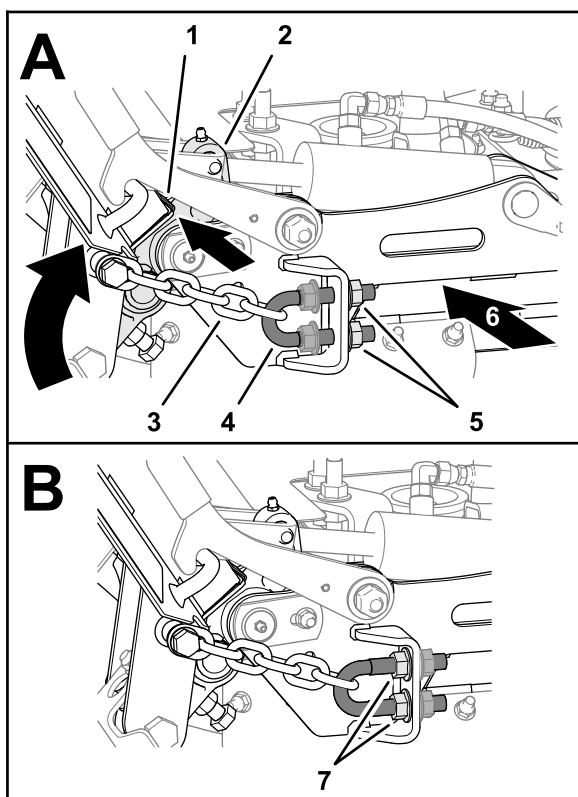

Figure 38
3. At the back of the deck, tighten the inboard serrated-flange nuts until the chains are tensioned (Figure 38).
4. Thread the outboard serrated-flange nuts (Figure 38) and torque them to 103 to 127 N·m (76 to 94 ft-lb).